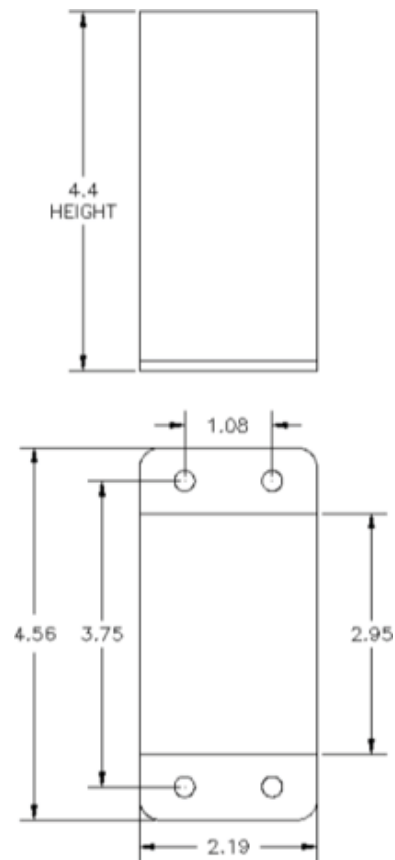

FIGURE A5.3: 37543
2. Mount the Smart Monitor inside an existing control panel or other suitable protective enclosure. See Figure A5.3 for Smart Monitor mounting dimensions.